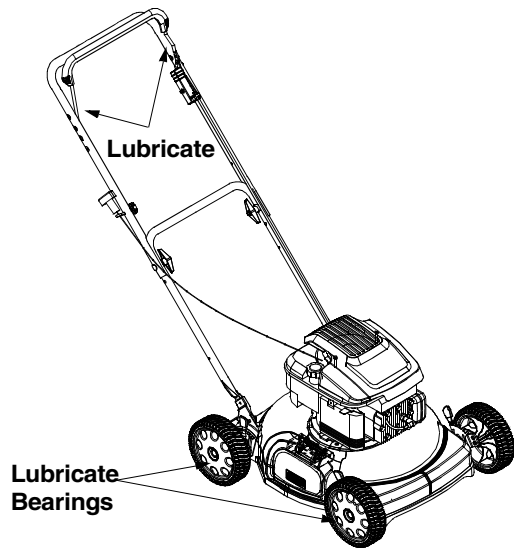

Figure 10
with light oil. See Figure 10. The blade control must operate freely in both directions.
- Lubricate the wheel bearings (if so equipped) at least once a season with light oil (or engine oil). Also, if the wheels are removed for any reason, lubricate the surface of the axle bolt and the inner surface of the wheel with light oil. See Figure 10.